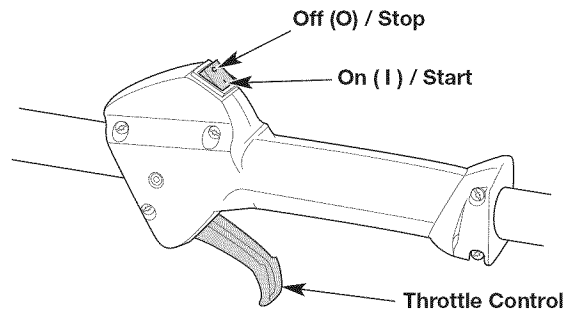
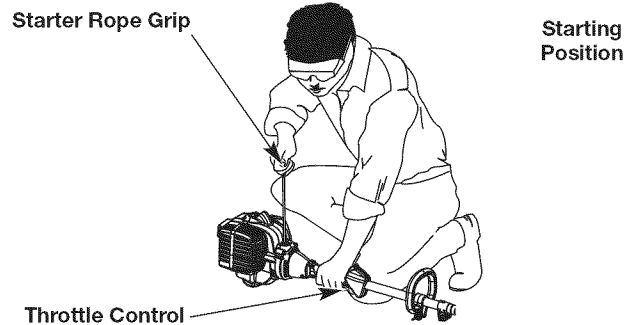

Fig. 9
Fig. 11
**WARNING:** Avoid accidentally starting the unit. To avoid serious injury, the operator and the unit must be in a stable position when pulling the starter rope (Fig. 11).
**NOTE:** There is no need to turn the unit on. The On/Off switch is in the ON (I) position at all times (Fig. 9).
5. Crouch in the starting position (Fig. 11).
6. Squeeze the throttle control (Fig. 9) and pull the starter rope with a controlled and steady motion **5 times** (Fig. 11).
2. Press and hold the On/Off switch in the OFF (O) position until the engine comes to a complete stop (Fig. 9).
**NOTE:** There is no need to turn the unit on. The On/Off switch is in the ON ( I ) position at all times (Fig. 9).
7. Squeeze and hold the throttle control (Fig. 9). Run the Speed Start™ accessory for 2 seconds.